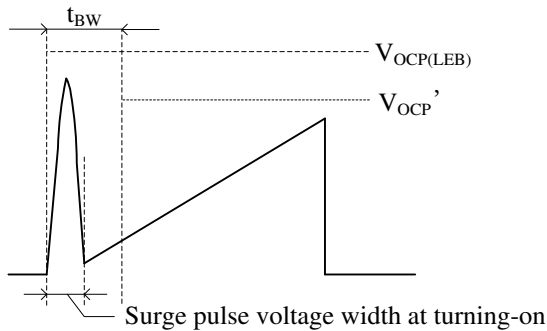
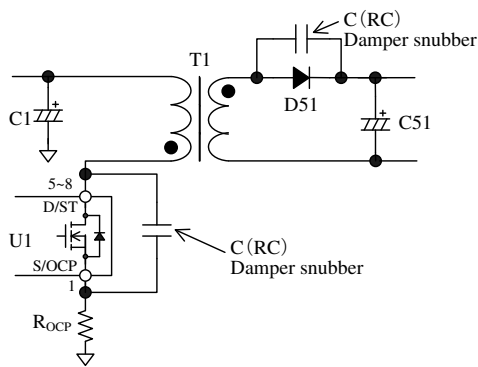

Figure 10-12. S/OCP Pin Voltage
Figure 10-13. Damper Snubber
During the Leading Edge Blanking Time, the OCP threshold voltage becomes $V_{OCP(LEB)} = 1.69\text{ V}$ which is higher than the normal OCP threshold voltage as shown in Figure 10-12. Changing to this threshold voltage prevents the IC from responding to the surge voltage in turning-on the power MOSFET. This function operates as protection at the condition such as output windings shorted or unusual withstand voltage of secondary-side rectifier diodes.
When the power MOSFET turns on, the surge voltage width of the S/OCP pin should be less than t_{BW} , as shown in Figure 10-12. In order to prevent surge voltage, pay extra attention to R_{OCP} trace layout (see Section 11.2). In addition, if a C (RC) damper snubber of Figure 10-13 is used, reduce the capacitor value of damper snubber.